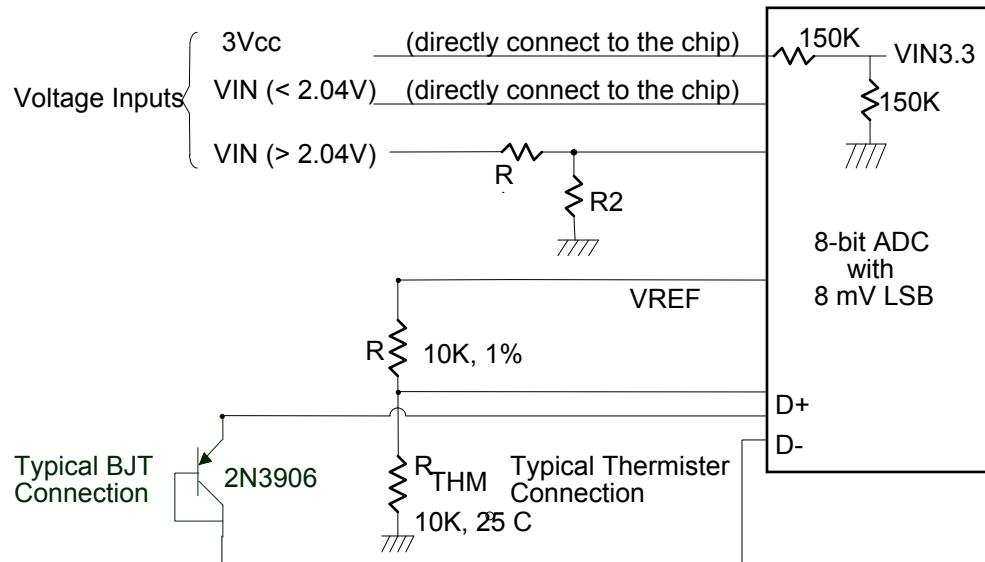

Fig 7-1
Therefore the voltage under 2.048V (ex:1.5V) can be directly connected to these analog inputs. The voltage higher than 2.048V should be reduced by a factor with external resistors so as to obtain the input range. Only 3Vcc is an exception for it is main power of the F81867. Therefore 3Vcc can directly connect to this chip's power pin and need no external resistors. There are two functions in this pin with 3.3V. The first function is to supply internal analog power of the F81867 and the second function is that voltage with 3.3V is connected to internal serial resistors to monitor the +3.3V voltage. The internal serial resistors are two $150K\Omega$, so that the internal reduced voltage is half of +3.3V (See figure 7-1).
(1) Monitor Temperature from “thermistor”
The F81867 can connect two thermistors to measure environment temperature or remote temperature. The specification of thermistor should be considered to (1) β value is 3435K (2) resistor value is $10K\Omega$ at 25°C . In the Figure 7-1, the thermistor is connected by a serial resistor with $10K\Omega$, then connected to VREF.
(2) Monitor Temperature from “thermal diode”
Also, if the CPU, GPU or external circuits provide thermal diode for temperature measurement, the F81867 is capable to these situations. The build-in reference table is for PNP 2N3906 transistor. In the Figure 7-1, the transistor is directly connected into temperature pins.